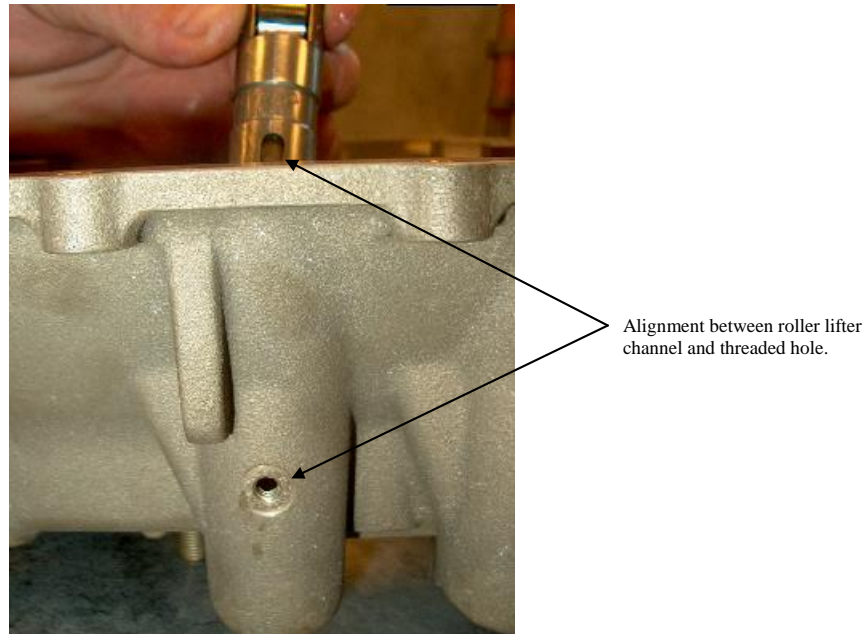

Figure 3: Alignment Between Lifter and Securing Screw Hole
- 3.2.3 Prior to assembly of the roller lifter and cylindrical bolts, ensure that the channel and threaded hole line up as shown in Figure 3.